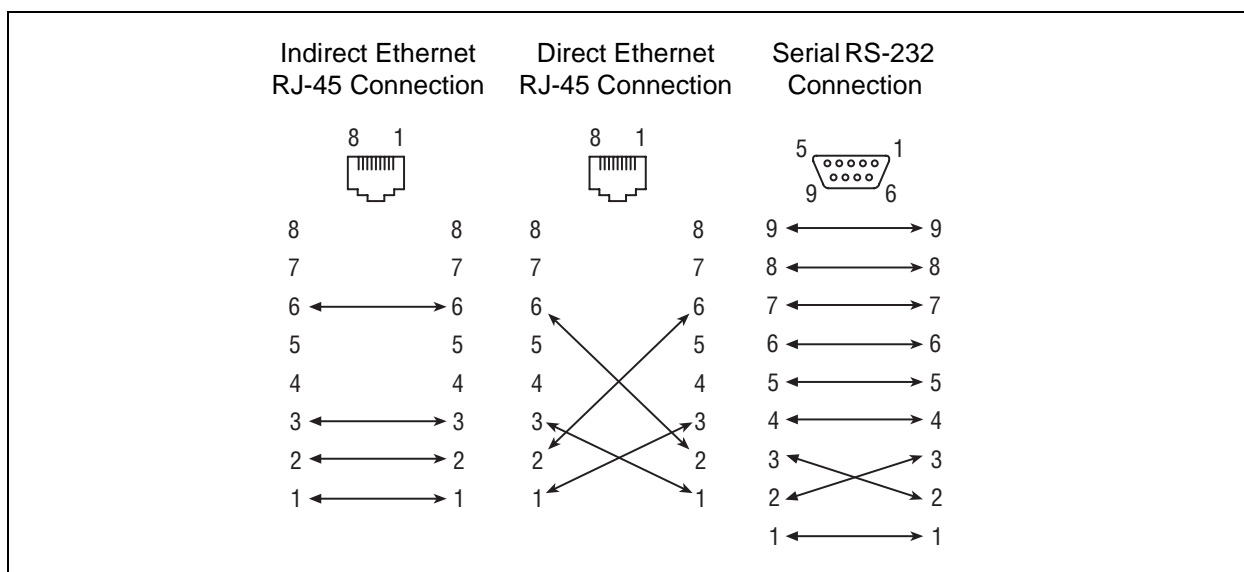

Figure 4-3. Ethernet and Serial Cable Connections
- Indirect Ethernet connection from the management workstation to the switch RJ-45 Ethernet connector through an Ethernet switch or a hub. This requires a 10/100 Base-T straight cable as shown in Figure 4-3. With this method, you can manage the switch with the SANbox Manager application or the CLI.
- Direct Ethernet connection from the management workstation to the switch RJ-45 Ethernet connector. This requires a 10/100 Base-T cross-over cable as shown in Figure 4-3. With this method, you can manage the switch with the SANbox Manager application or the CLI.
- Serial port connection from the management workstation to the switch RS-232 serial port connector. This requires a null modem F/F DB9 cable as shown in Figure 4-3. With this method, you can manage the switch with the CLI.